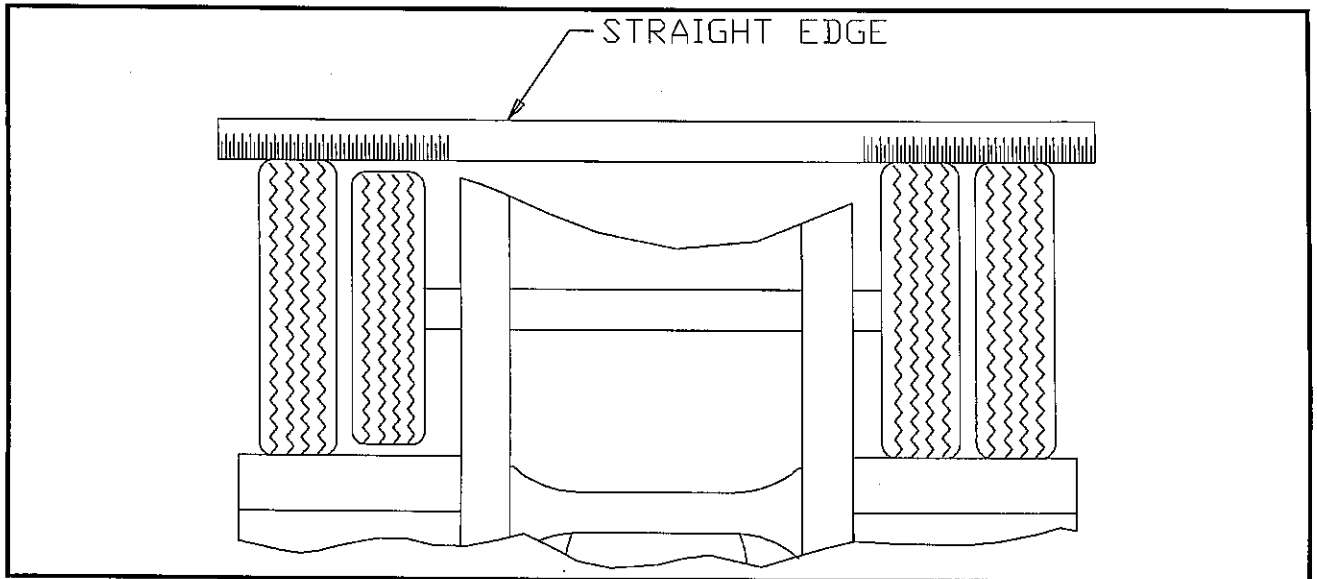

FIG. 6-6 STRAIGHT EDGE METHOD
a. Jack trailer up until the wheels are off of the ground. Hold a straight edge against the tires of both ends of an axle. A gap at one tire indicates a smaller tire. A maximum of $1/8$ " gap is allowed (See FIG. 6-6).